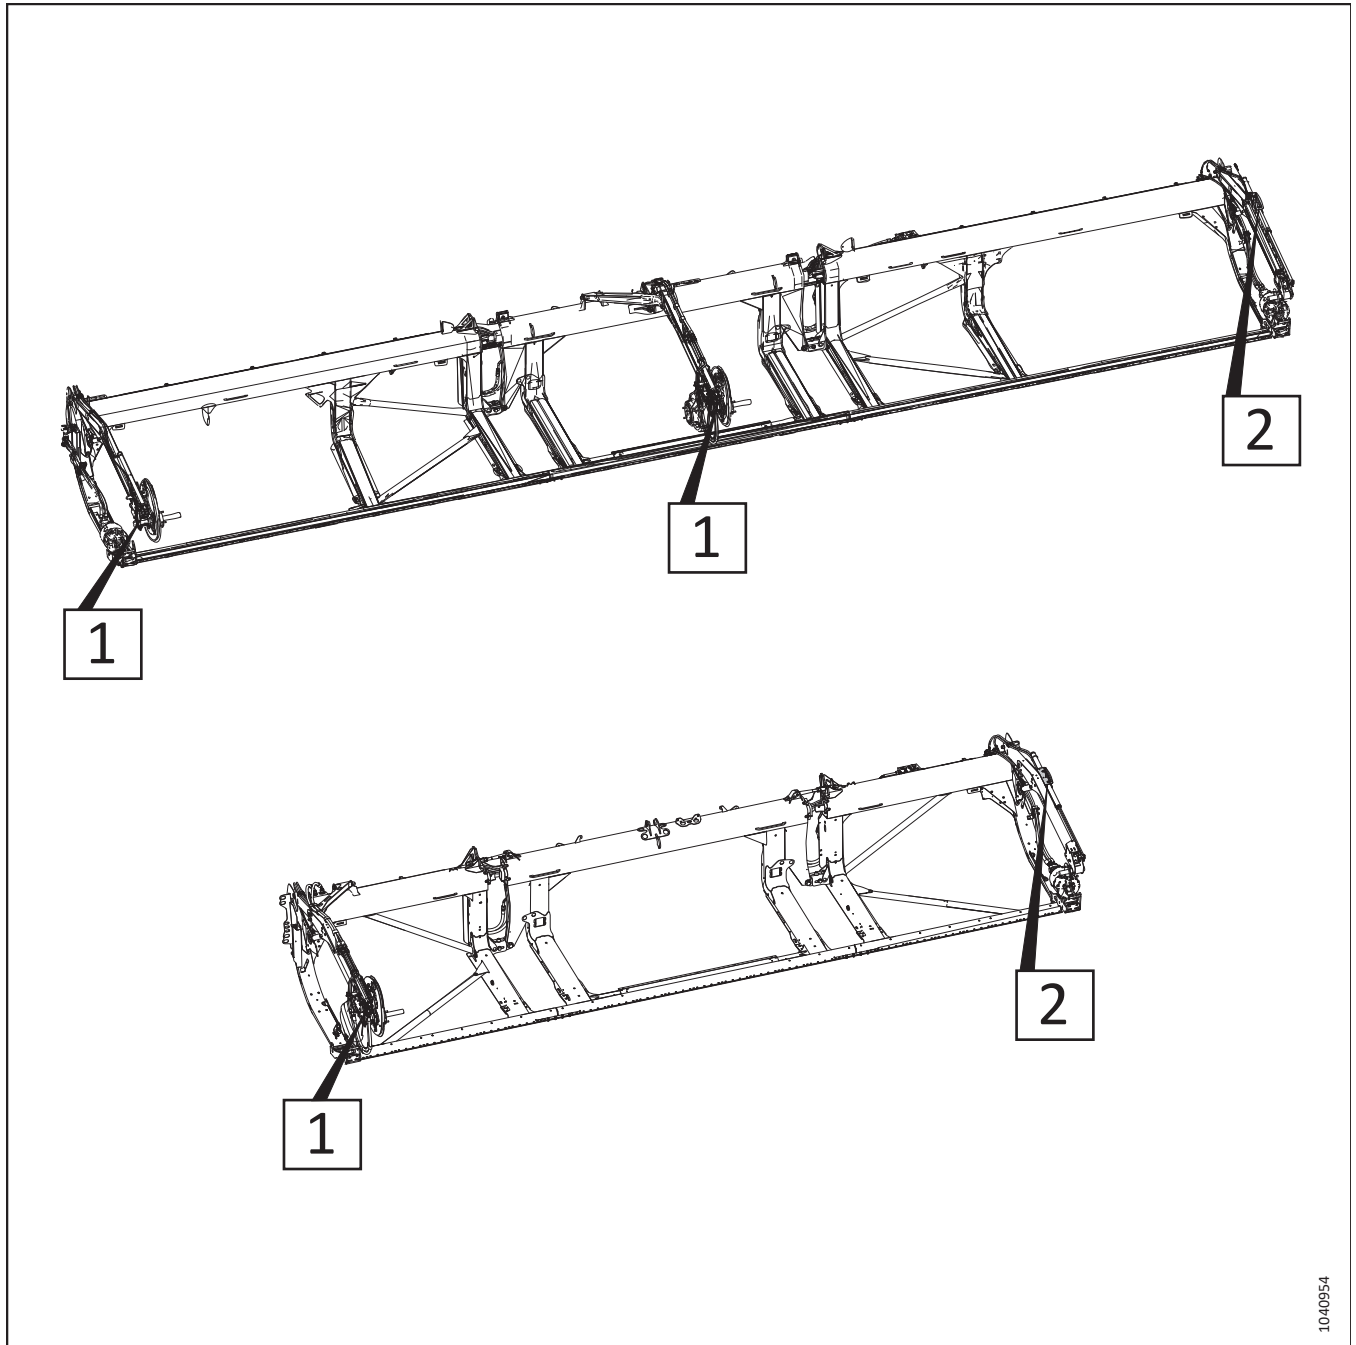

Figure 3.174: Adjustable Fore-Aft Cylinders – Procedure Reference Numbers
5. Refer to Figure 3.174, page 155 to determine the fore-aft cylinder adjustment procedures for your header type. The number on the illustration refers to one of the following procedures: